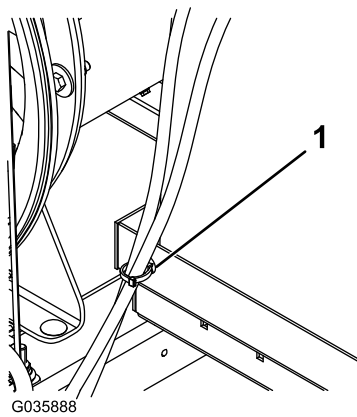

Figure 10
11. Snap the tie clip onto the side of the fuel-tank tray and secure the 2 fuel-tank hoses to it (Figure 10).